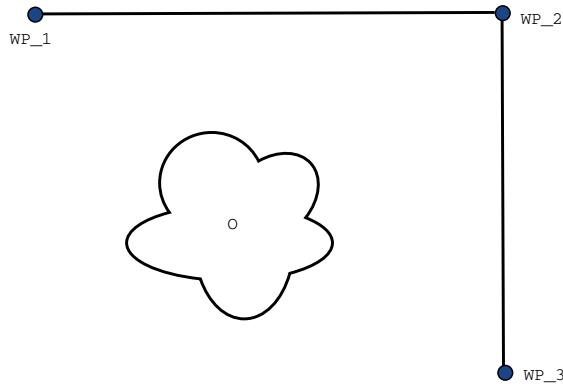

Figure 14.2: WP\_1: initial position, WP\_2: via point, WP\_3: pick up position, ○: obstacle.
**Example** Consider a pick and place application as an example (see figure 14.2), where the robot is currently at Waypoint 1 (WP\_1), and it needs to pick up an object at Waypoint 3 (WP\_3). To avoid collisions with the object and other obstacles (○), the robot must approach WP\_3 in the direction coming from Waypoint 2 (WP\_2). So three waypoints are introduced to create a path that fulfils the requirements.